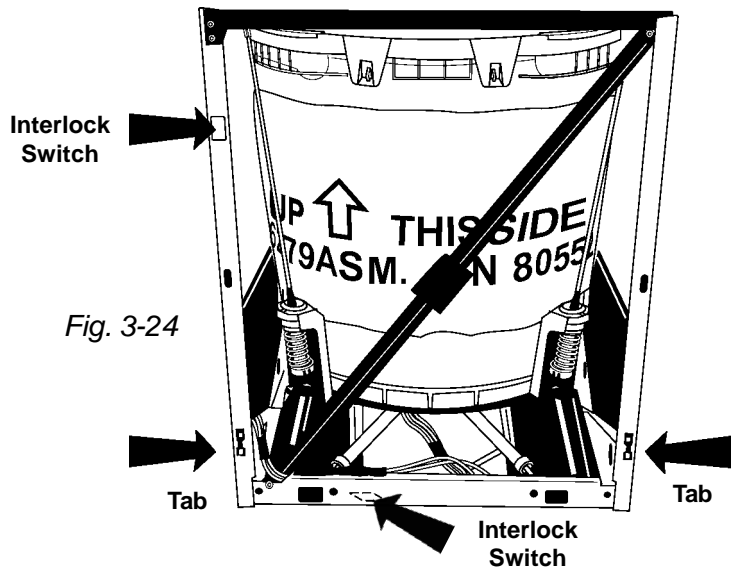

Fig. 3-24
4. Lift the front cabinet panel out and up to disengage the slots at each side of the panel from the tabs in the side panels. (Fig. 3-24)